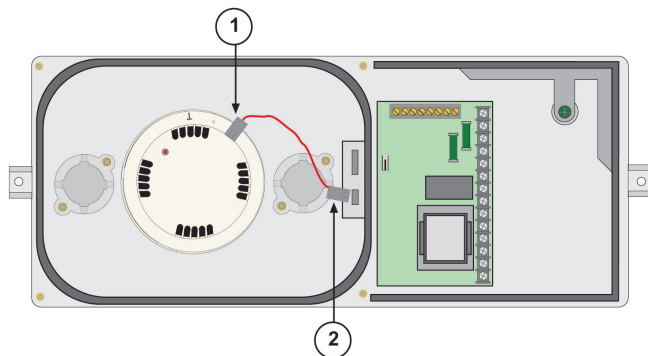

Figure 2.2: Wiring harness connection
2. Connect the wiring harness to the detector and the D340 Family housing's power card as shown in Figure 2.2: Wiring harness connection.